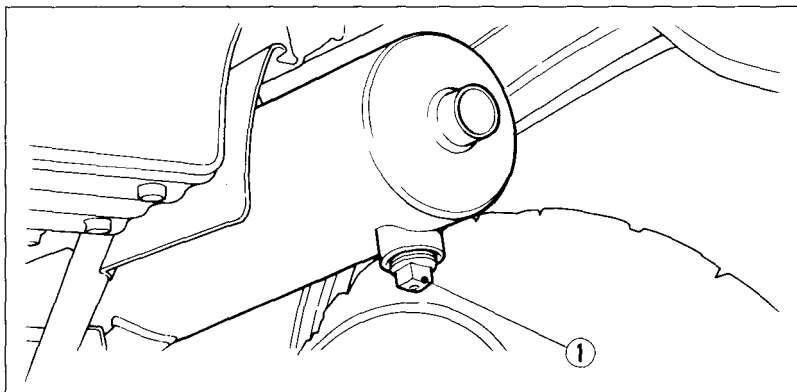

Fig. 4-38
2. Remove the bolt (Fig. 4-38).